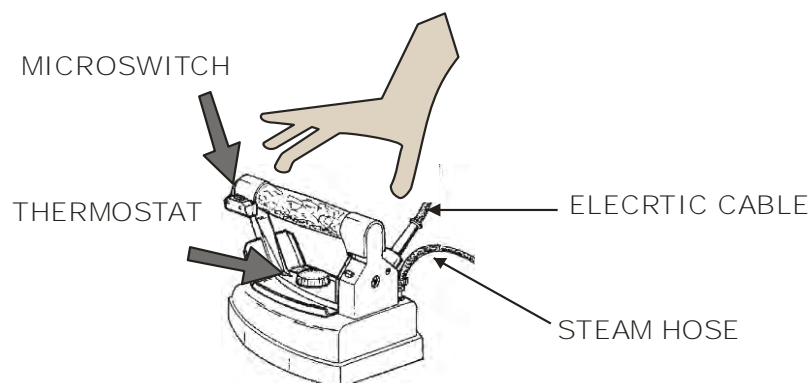

Fig. 2
1. Run the iron on the garments, pressing the micro-switch of the iron at intervals (fig. 2) so that steam comes out. It is recommended to frequently use vacuum in order to avoid forming of stagnation on ironing board and allow the garment to dry.